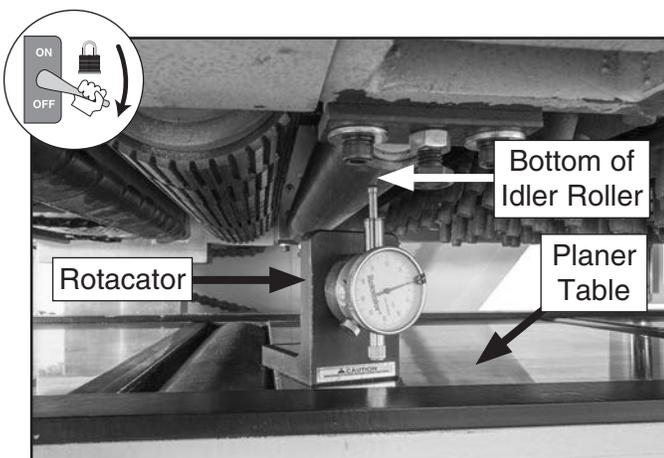

Figure 111. Rotacator placed underneath left-side of idler roller.
3. Place Rotacator or dial indicator on planer table underneath left-side of idler roller (see **Figure 111**).